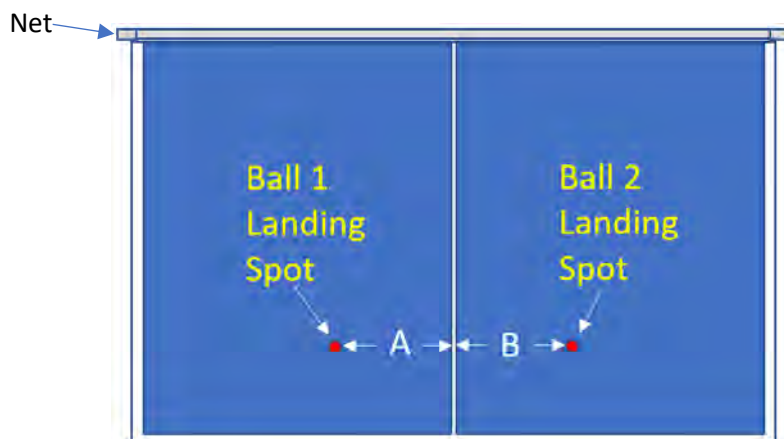

Figure 4-2
5. Press the Start – Stop button. Balls will now be delivered alternately between the left and right side of the table (backhand/forehand). (Figure 4-2)
6. Measure the distances A and B as shown in Figure 4-2.
10. Restart the ball delivery by pressing the Start - Stop button on the Control Panel and re-measure A and B (Figure 4-2). If the difference between A and B is still greater than 2 inches, repeat steps 5-9 until the difference between Measurement A and Measurement B is **less** than 2 inches.